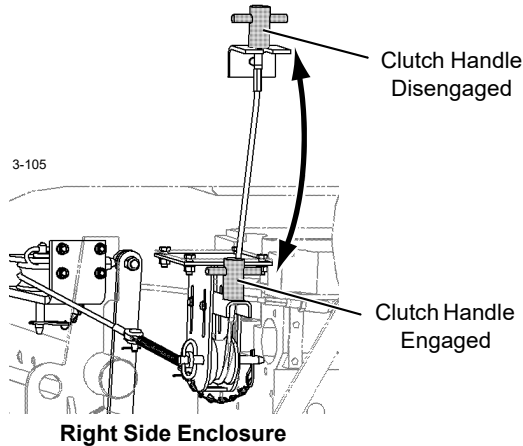

FIGURE 3-17
4. If ambient temperature is below 40°F (4°C), disengage engine clutch, as shown in Figure 3-17. This step will disconnect the pumps from the engine and aid in cold weather startup.